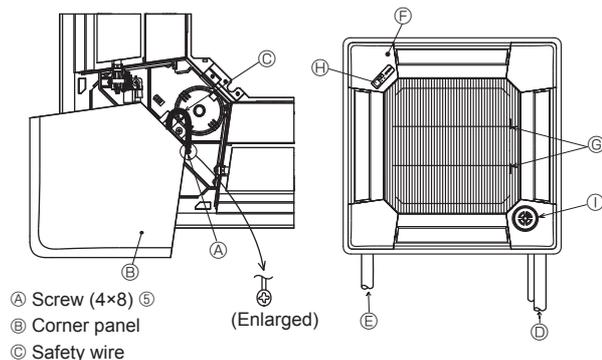

Fig. 9-9
9.5. Installing the intake grille (Fig. 9-9)